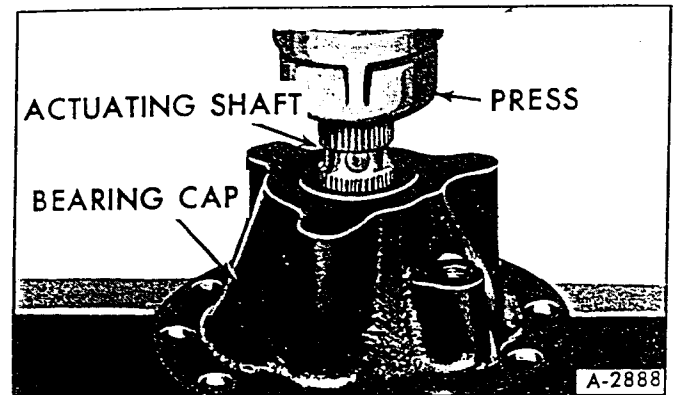

Figure 18 – Removing Actuating Shaft
13. Press actuating shaft and bearing assembly out of bearing cap (fig. 18).